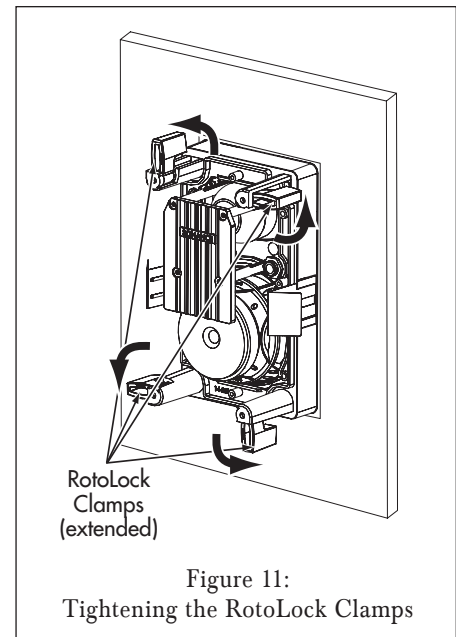

Figure 11:
6. Tighten the four screws on the front of the speaker baffle. The RotoLock clamps will automatically rotate into position and begin clamping the speaker (see Figure 11).